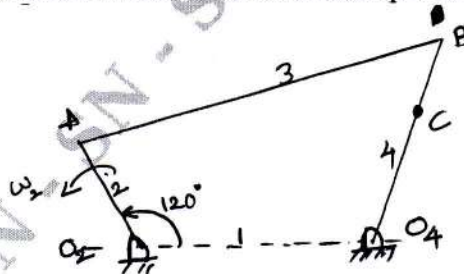

Fig Q3(b)
- b. For a 4 – bar mechanism shown in Fig Q3(b). Determine the acceleration of 'C' and angular acceleration of link 3, when crank 2 rotates at 20 radians per second.